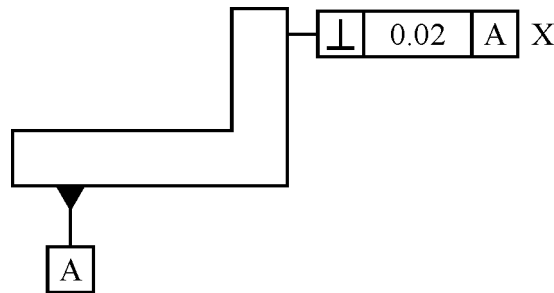

Fig. 2
- (g) Refer Fig. 2 and state the meaning of symbol at X.